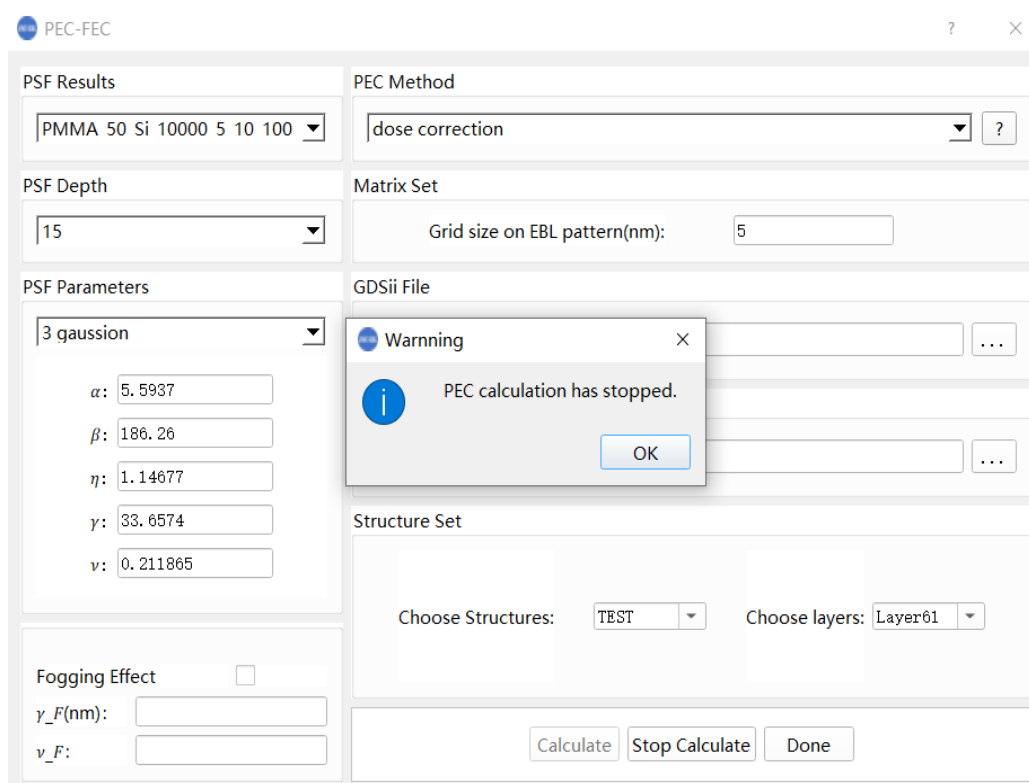

Figure 3.1.5 Termination proximity effect correction calculation interface
(12) You can click "stop calculation" to abort the current calculation (as shown in figure 3.1.5).